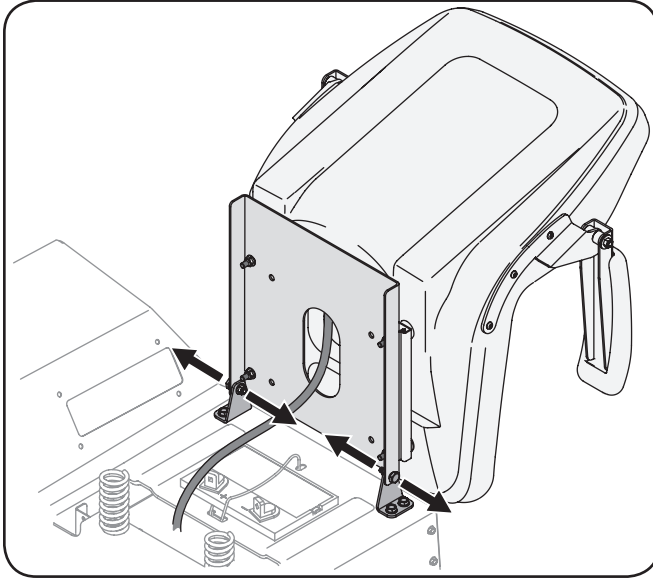

Figure 3-3
2. Remove the two shoulder bolts and lock nuts in the seat pan as shown in Fig. 3-3.